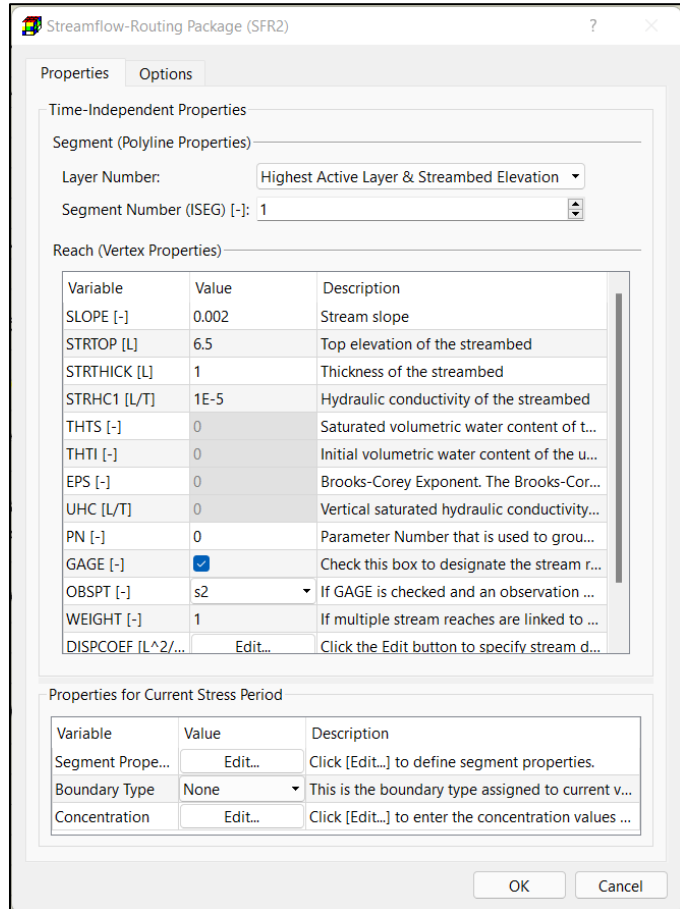

Figure 86. The Streamflow-Routing Package (SFR2) dialog box for specifying vertex properties
3. **Polyline input method:** Figure 86 shows the Properties tab of the Streamflow-Routing Package (SFR2) dialog box. The required data are organized in two groups as described below. Once the vertex data are specified, they may be interpolated and applied to model cells following the rules described in Section 3.4.2.2. Note that the specified values of GAGE, OBSPT, and WEIGHT only apply to the stream reach at the vertex location and will not be interpolated to reaches between vertices.